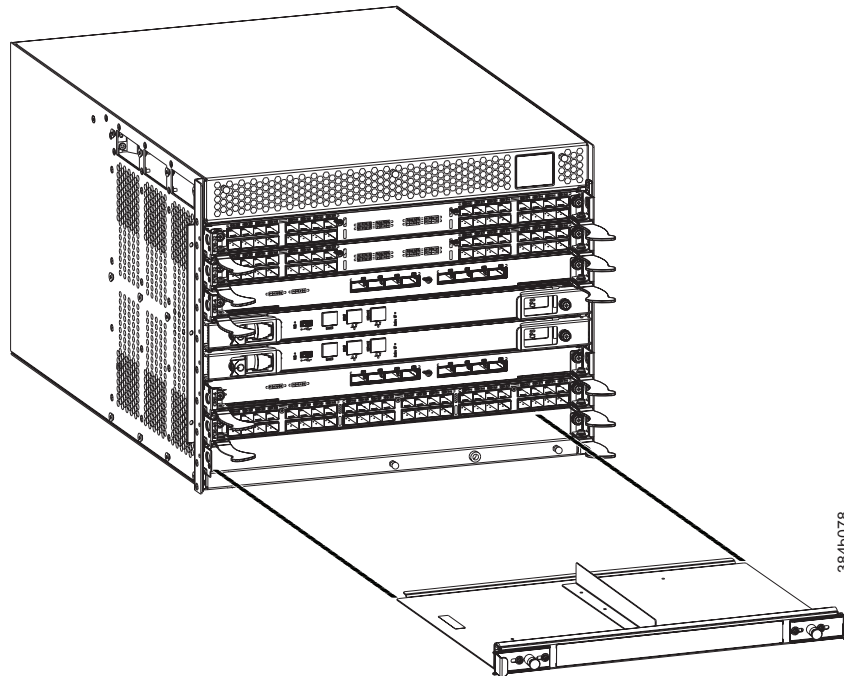

Figure 35. Filler panel removal and installation
3. Using the handles, pull the filler panel out of the chassis (Figure 35 on page 77).
1. Orient the filler panel in front of the empty slot (see Figure 35).